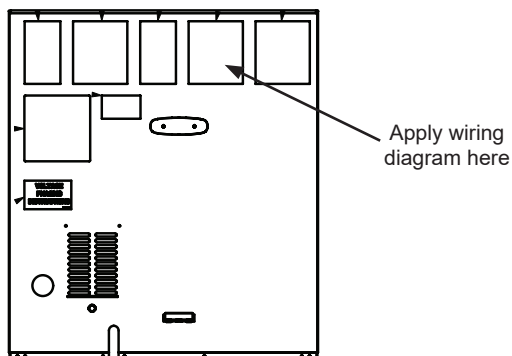

Figure 11 - Label Installation
8. Apply wiring diagram to the control panel. See Fig. 11.